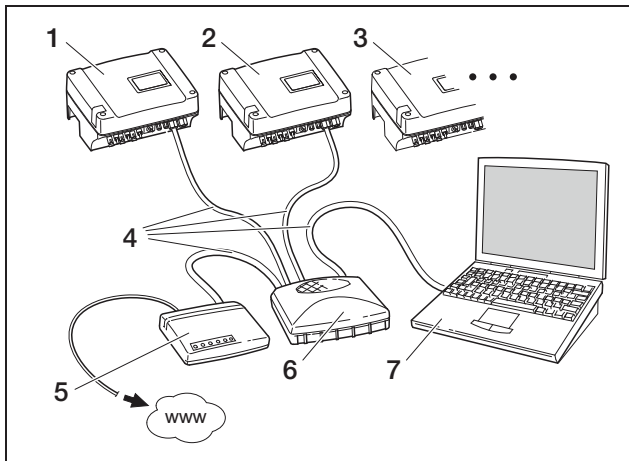

Fig. 73: Communication board I:
- The option “Auto IP/DHCP” is suitable for most applications (figure 73 or 74).